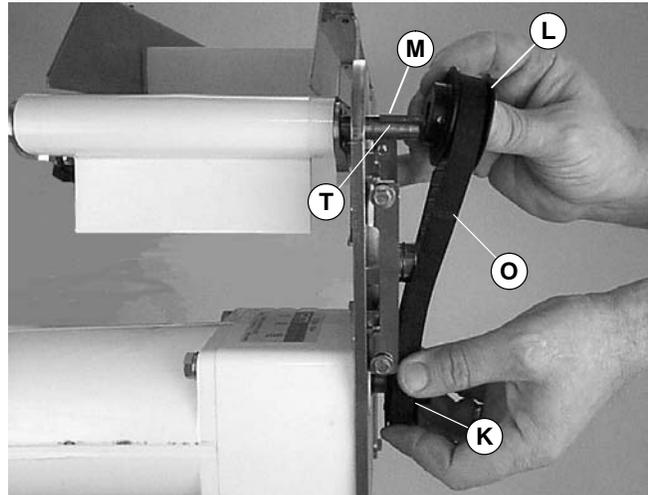

Figure 6
NOTE: Figures 6 and 7 show timing belt installation on a 7200 Series conveyor. Installation on a 7300 Series conveyor is similar.
5. Install key (M of Figure 6) on conveyor input shaft (T).